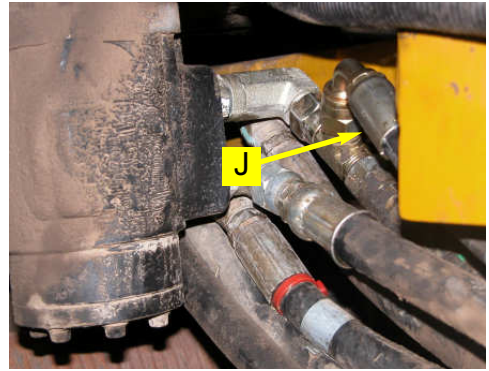

Figure 4a. Connected tank hose at run tee.
- a. Route the provided tank hose (**J**) from the **T** port of the Automated Steering Block, behind the sheet metal shielding and across to the run tee installed on the **T** port of the steering orbital. (Figure 4a. and 4c.)
- b. Secure the tank hose to the branch of the run tee and to the elbow in the **T** port of the Automated Steering Block. (Figure 4a. and 4c.)